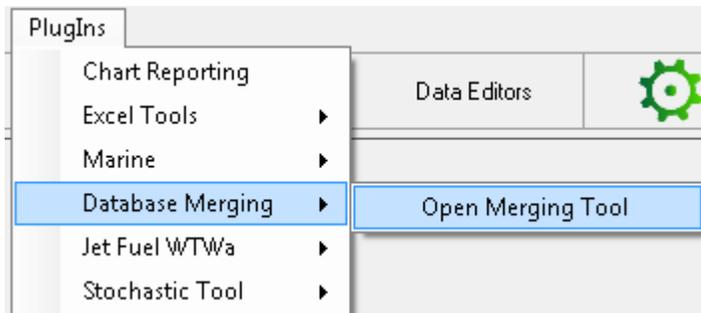

Figure 116: Select a GREET data file to Merging From
**Step 1.** Selecting the "Database Merging" then "Open Merging Tool" from the main menu. See Figure: 116